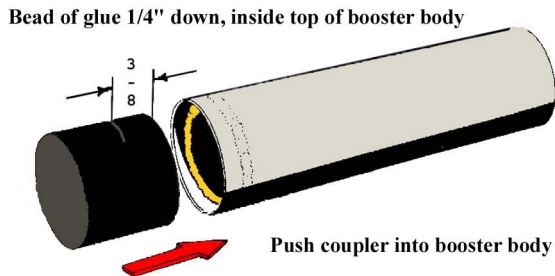

Figure 10
- **Step 18** As shown in Figure 10, draw a line around each of the two HTC-8 couplers 3/8” from one end. Apply a bead of glue completely around the top-inside of the **first booster**, but no deeper than 1/4” from the edge. Insert a coupler short-end first, into the glue bead and press inward until the line